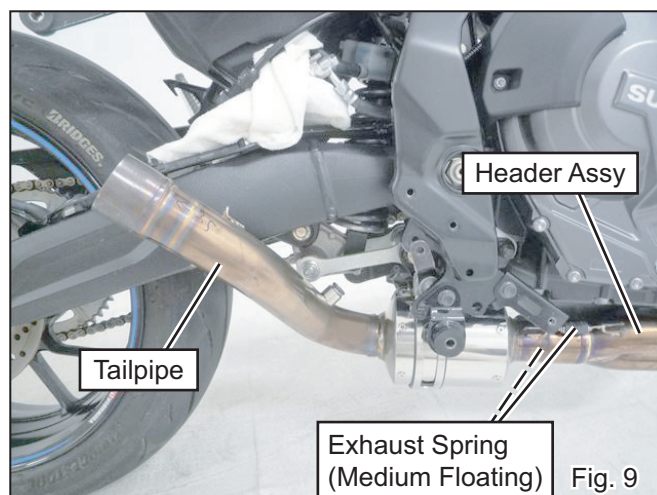

Fig. 9
- 9) Install Tailpipe to Header Assy and fix them with 2 of Exhaust Springs (Medium Floating) (See Fig. 9).